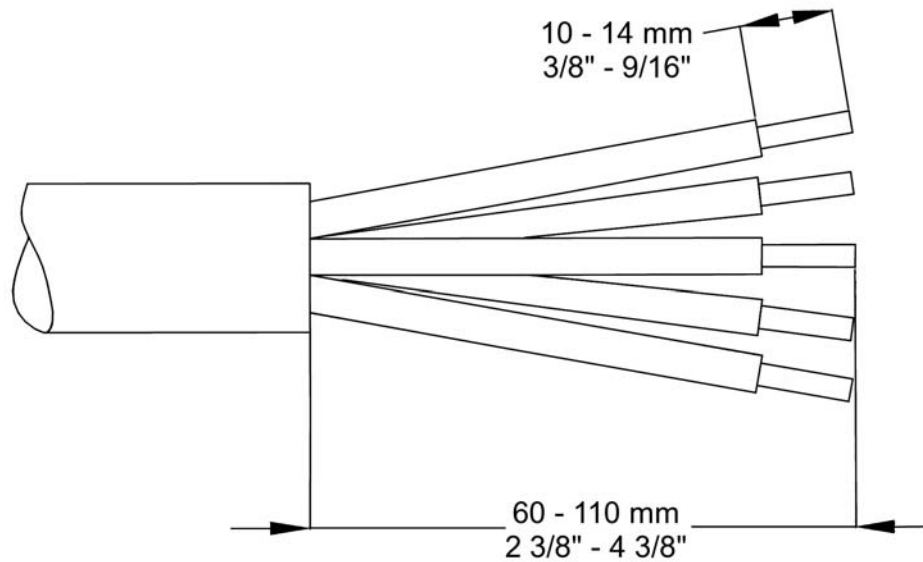

Figure 13: Trolley cable trim guidelines
1. See Figure 13 for cable trim guidelines.